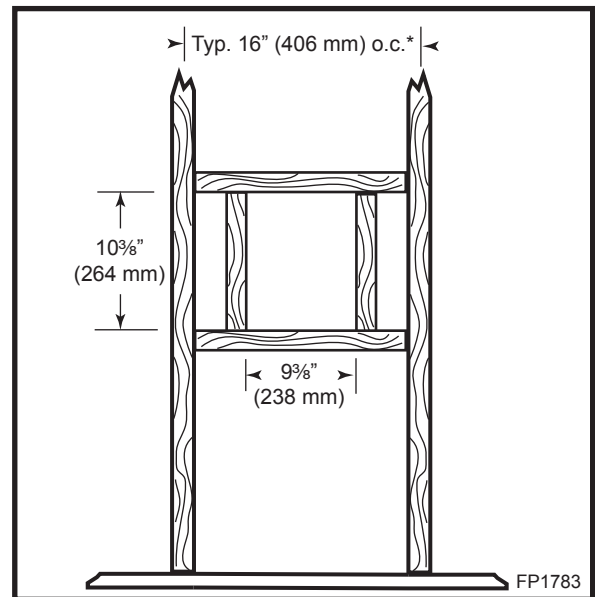

Fig. 3 Firestop framing.
3. Make sure framing for firestop is correct. **NOTE:** Firestop is for combustible walls. Refer to firestop framing instructions on Pages 6 and 14, Figures 3 and 17.